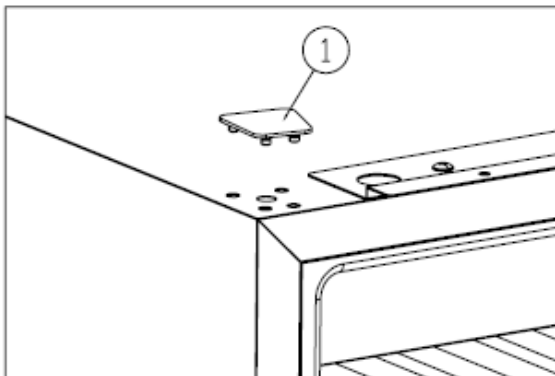

Figure 3
Removethegerminal lid (1). [Figure 3]